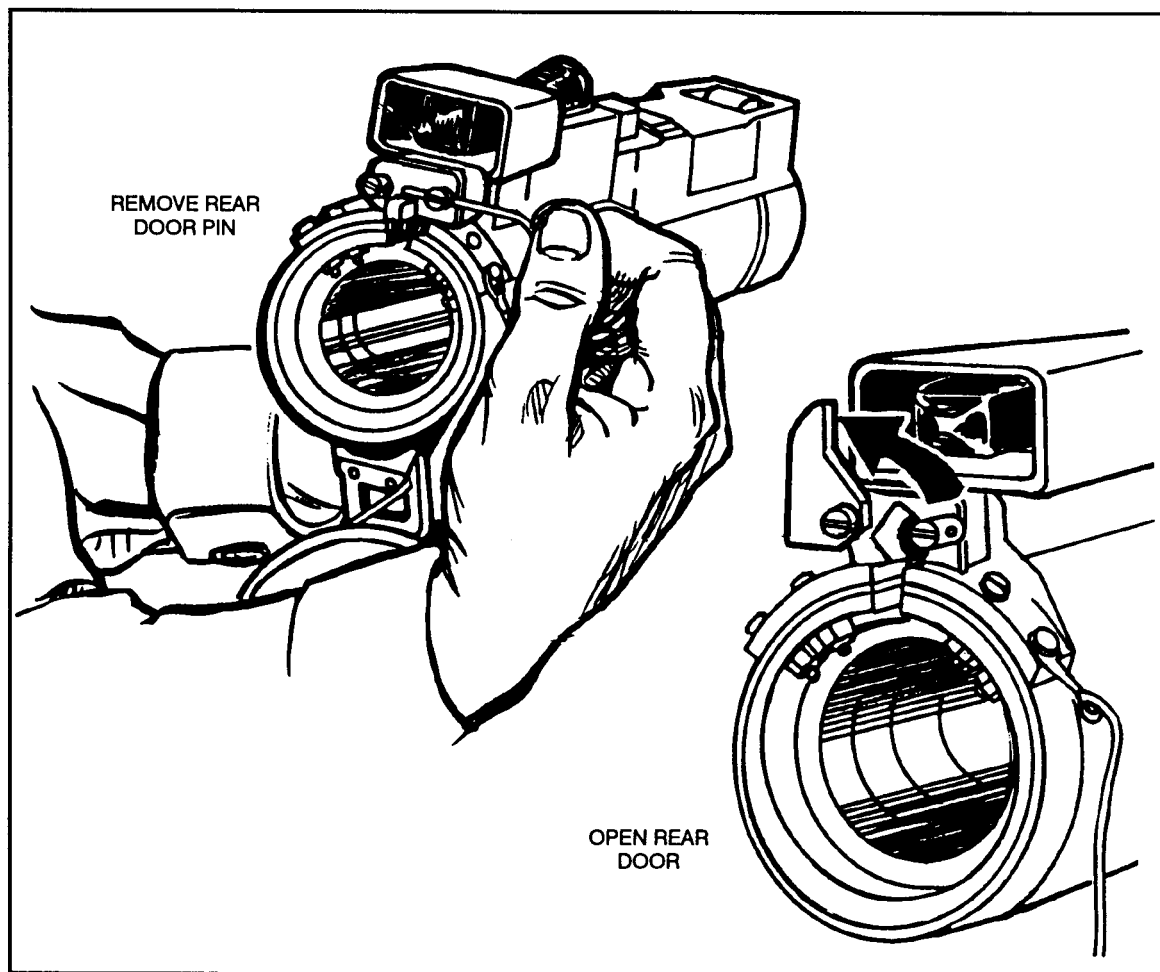

Figure B-3. Loading the LAW subcaliber launcher.
e. **Loading.** To load the M73 rocket into the M190 launcher (Figure B-3)—
(1) Twist and remove the primer housing lockpin and open the primer housing door.
(2) Remove the fired primer block (if present) from the primer block cavity of the launcher.
(3) Inspect the primer block cavity for obstructions such as primer case stuck on the firing pin.
(4) Pivot and remove the safety clip from the rocket.
(5) Insert the M73 rocket into the launcher with the primer faceup and toward the firing pin housing.
(6) Guide the primer block into the primer block cavity with the primer toward the front of the launcher. Close the primer housing door, insert the lockpin across the primer housing door, and twist to ensure a spring-tight fit. Ensure the primer housing door fits snugly.